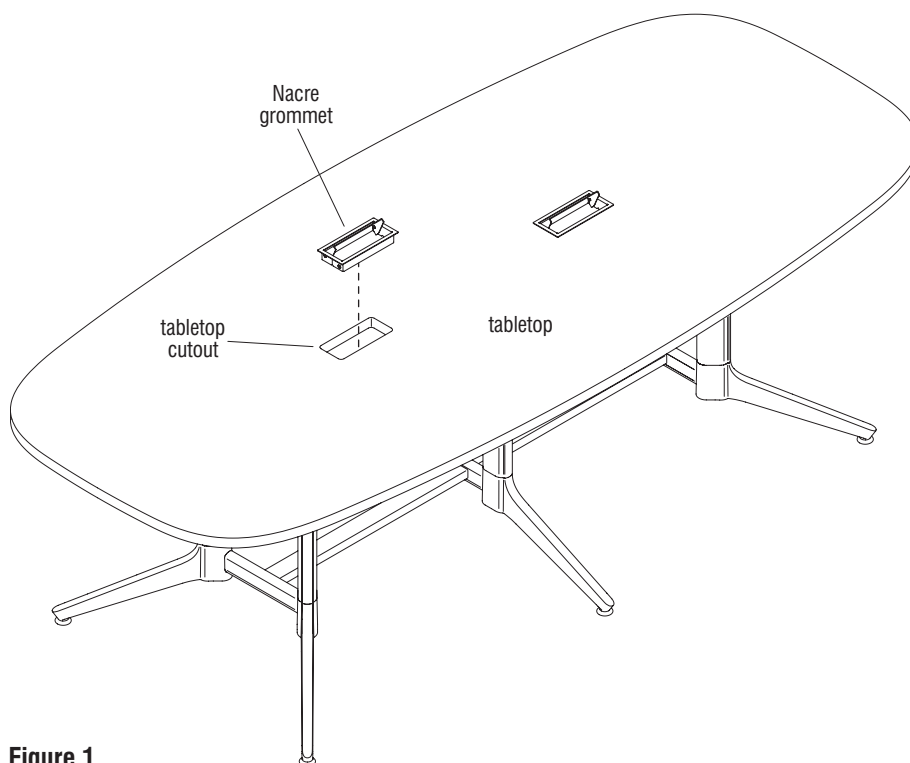

Figure 1
1. Position the Node grommet above the tabletop cutout as illustrated (Figure 1 & Detail C).
2. Push the grommet into the cutout straight and oriented consistent with other grommets on one or more tables. Tap lightly on the grommet with a rubber mallet if required. Use caution to avoid scratching the grommet (Figure 1 & Detail C).